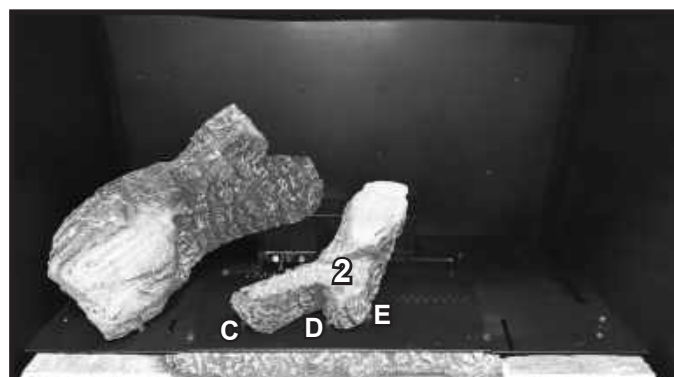

Figure 11. Log #2 Installed
**LOG #2:** The short side of the Y on Log #2 will sit between log pins D and E, the long end of the Y will sit against log pin C. The opposite end of Log #2 will sit on the air scoop. See Figure 11.